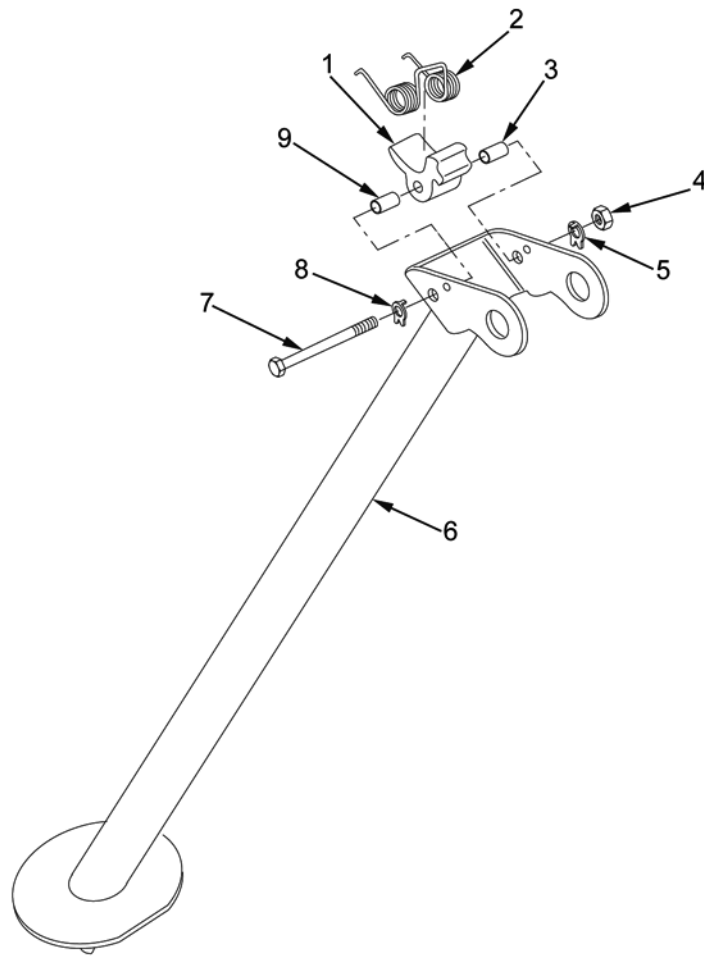

Figure 1. Disassembly/Assembly of Right Mortar Bipod Leg.
2. Remove hexagon plain nut (Figure 1, Item 4) and key washer (Figure 1, Item 5). Discard key washer.
3. Remove machine bolt (Figure 1, Item 7), key washer (Figure 1, Item 8), sleeve spacer (Figure 1, Item 9), torsion helical spring (Figure 1, Item 2), lock-release lever (Figure 1, Item 1), and sleeve spacer (Figure 1, Item 3) from right bipod leg (Figure 1, Item 6). Discard key washer and torsion helical spring.
1. Install new key washer (Figure 1, Item 8) on machine bolt (Figure 1, Item 7).
2. Start machine bolt (Figure 1, Item 7) into hole in right bipod leg (Figure 1, Item 6) and install sleeve spacer (Figure 1, Item 9).
Observe Figure 1 for proper orientation of torsion helical spring.
3. Align new torsion helical spring (Figure 1, Item 2) behind long tab of lock-release lever (Figure 1, Item 1). Install machine bolt (Figure 1, Item 7) through torsion helical spring and lock-release lever and install sleeve spacer (Figure 1, Item 3). Push machine bolt through hole in bipod leg (Figure 1, Item 6).
4. Install new key washer (Figure 1, Item 5) and hexagon plain nut (Figure 1, Item 4). Tighten nut until snug against key washer with no axial play on machine bolt (Figure 1, Item 7).
5. Bend tabs of two key washers (Figure 1, Items 8 and 5) to secure machine bolt (Figure 1, Item 7).